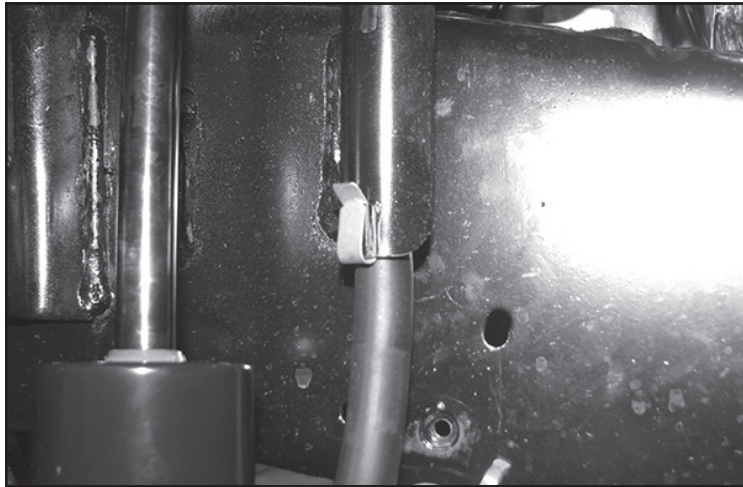
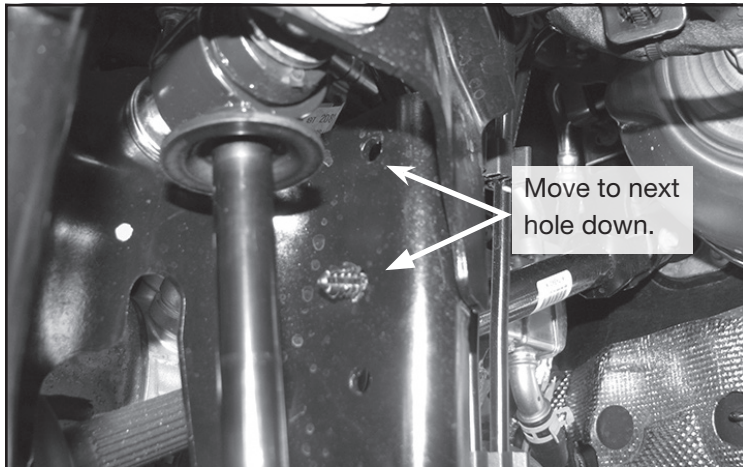

FIGURE 24 - STEP 18
FIGURE 25 - STEP 18
18. Reinstall the diff breather hose by sliding the metal clip up the hose 2" **SEE FIGURE 24** and the christmas tree fastener into the next hole down. **SEE FIGURE 25.**